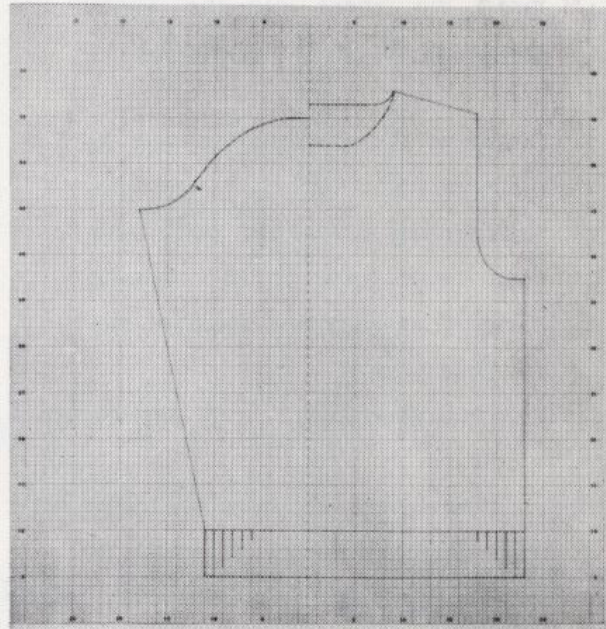

Fig. 24
(1) Insert the Sheet into the Sheet guides as shown in the Fig. 24
(2) Push the Sheet button to lock it.
(3) Hold the left end of the Sheet with your hand and fit the Sheet's perforations over the teeth of the left Feed wheel.